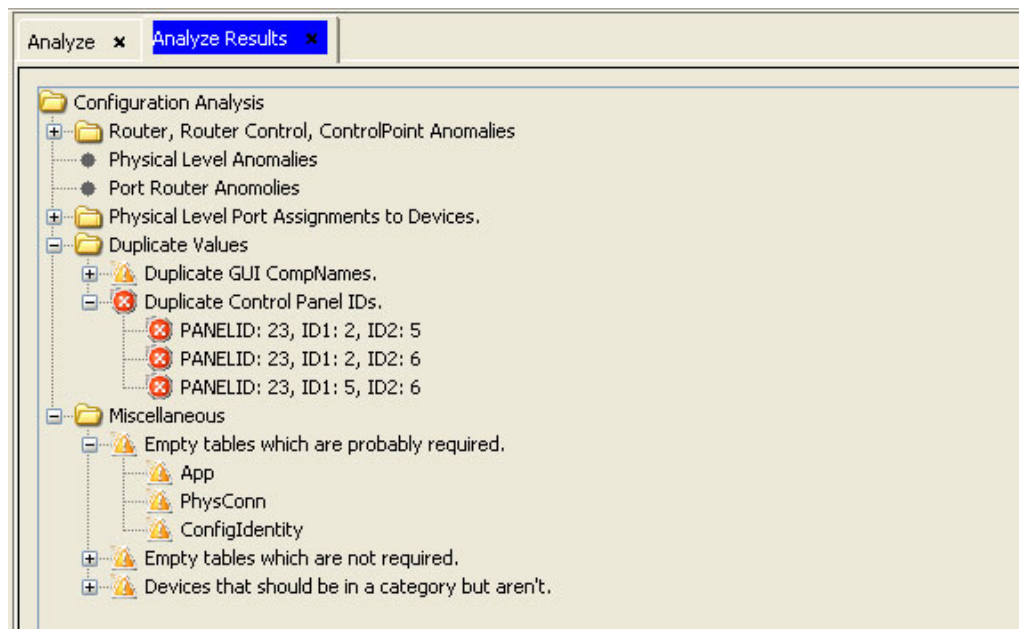

Figure 4-13. Analyze Report Page
- 4 The results of the analysis displays on the 'Analyze Report' page in a 'tree', as shown in Figure 4-13. Click the 'Analyze Report' page window tab to bring the page forward.